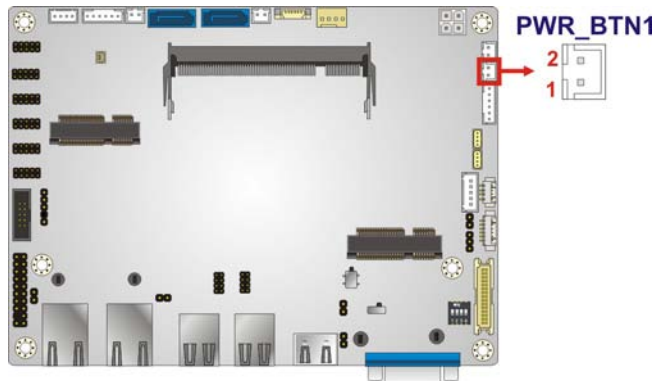

Figure 3-18: Power Button Connector Location
- CN Location: See **Figure 3-18**